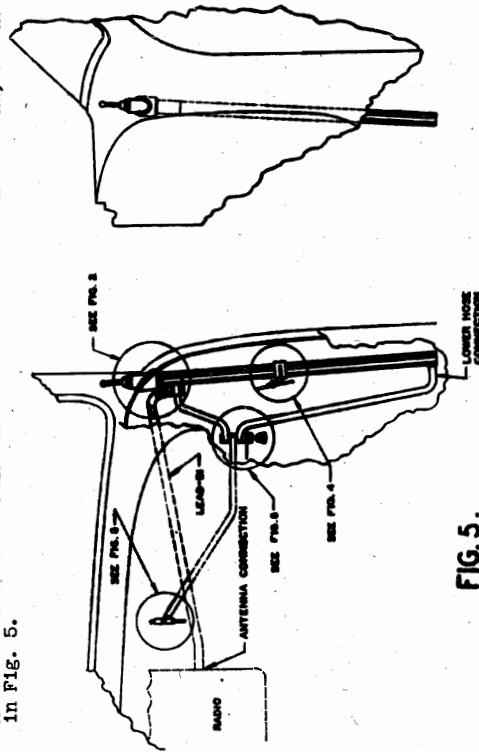

FIG. 5
6. Assemble lower hose connection to the bottom of the antenna, as shown in Fig. 5.